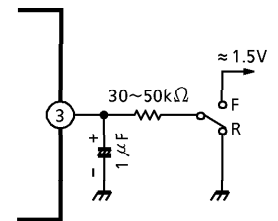

Fig.2
(2) The recommended Forward / Reverse select circuit is shown in Fig.2.